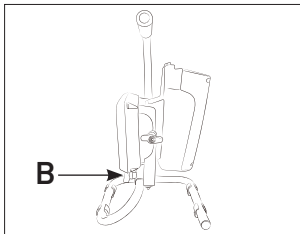

FIG. 5B
To adjust the angle of the light frame, loosen the Frame Angle Adjustment Knob (B), hold the Frame with one hand and adjust the Handle with the other hand. (Fig 5B)